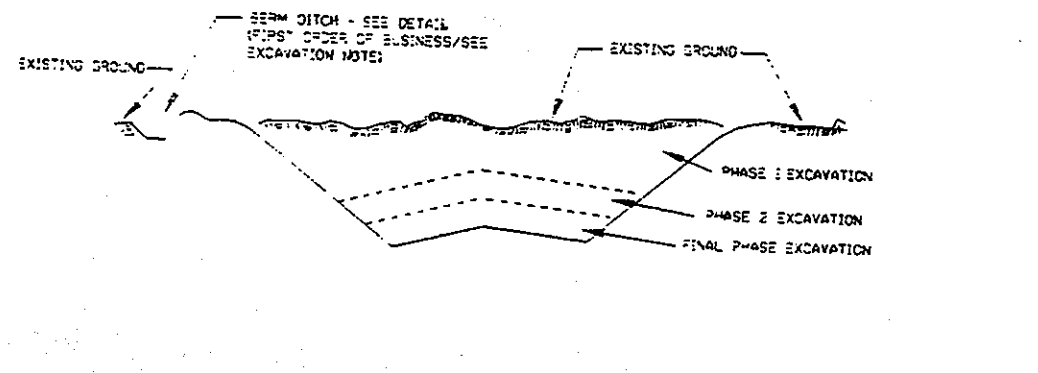

Figure 4 Incremental Stabilization - Cut
- Construction sequence: Refer to Figure 4 (below).